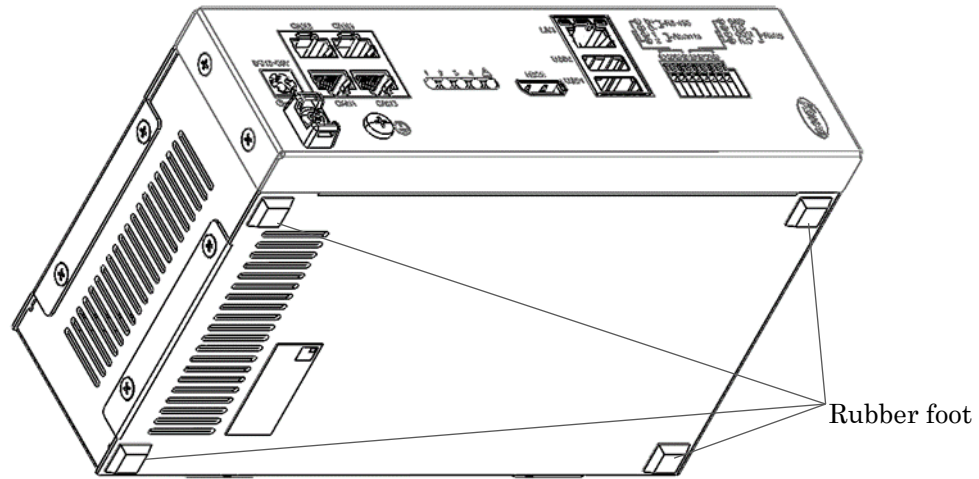
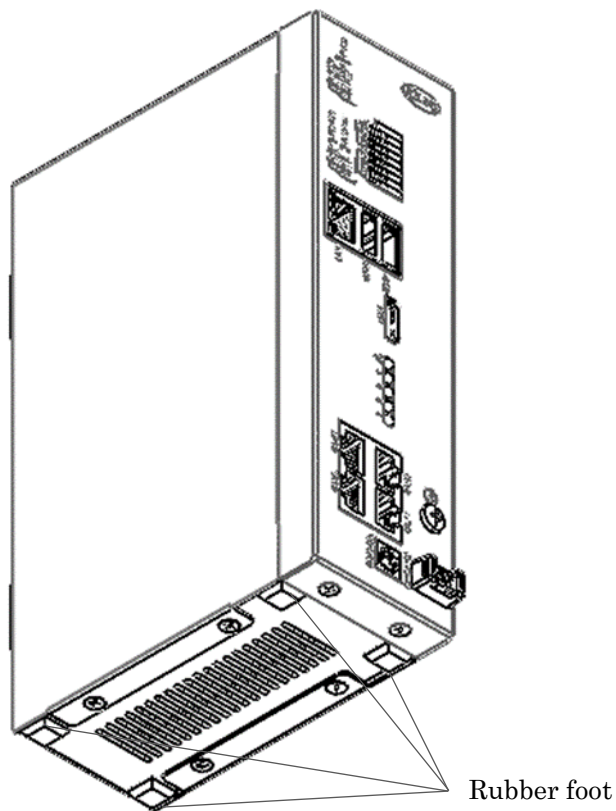

Fig. 3: Example of attachment of rubber feet (horizontal installation)
Fig. 4: Example of attachment of rubber feet (vertical installation)
* To prevent slipping and vibration, attach the supplied rubber feet. Attach rubber feet by referring to Fig. 3 when installing the NVR horizontally or Fig. 4 when installing it vertically.